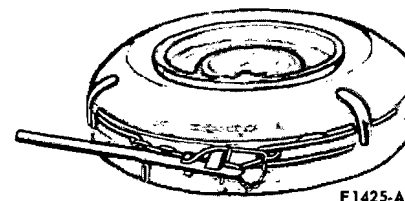

FIG. 4—Tubeless Tire Mounting Band
4. Hold the beads against the rim flanges by positioning a tire mounting band over the tire (Fig. 4). If a mounting band is not available, tie a tourniquet of heavy cord around the circumference and in the center of the tire. Tighten the cord with a tire iron.